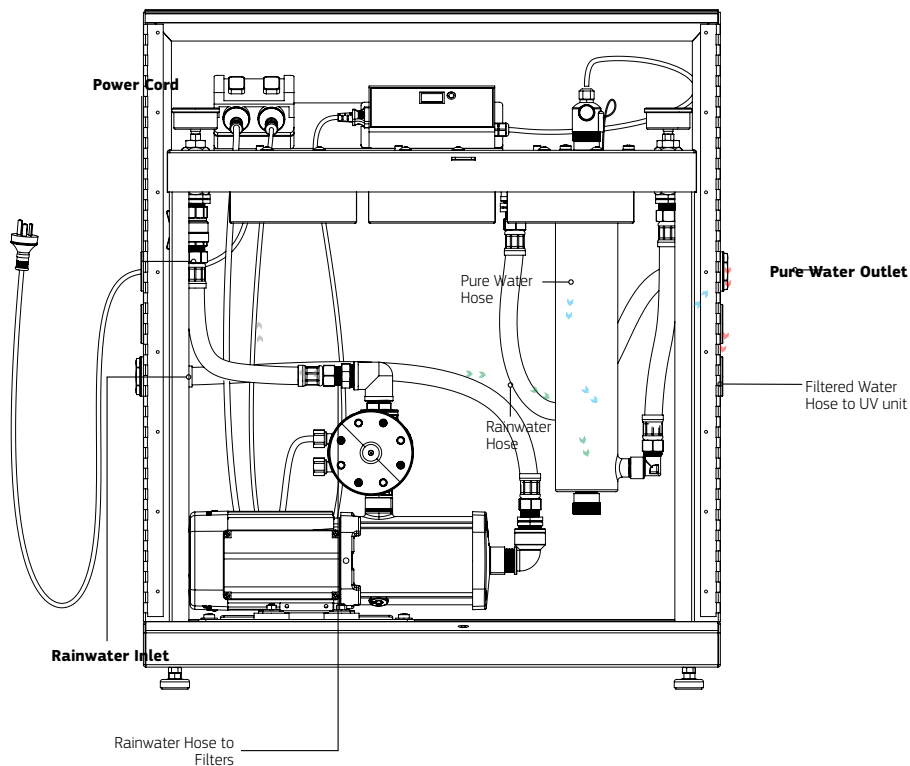

Fig 5. As Supplied Plumbing Connections - P1 & P1-BL Models
Choose a location with a structurally appropriate position. Allow a chamber length space above the unit for removal of the lamp and sleeve from the Radfire UV system during servicing and allowance for the swing doors to open (see Fig. 5).
2. Locate a suitable position for the HybridPlus system, remembering to allow 380 mm either side of the unit, 260 mm in front of the unit for the swing doors and 700 mm clearance above the unit for lamp changes (see Fig 5). A power outlet is required.